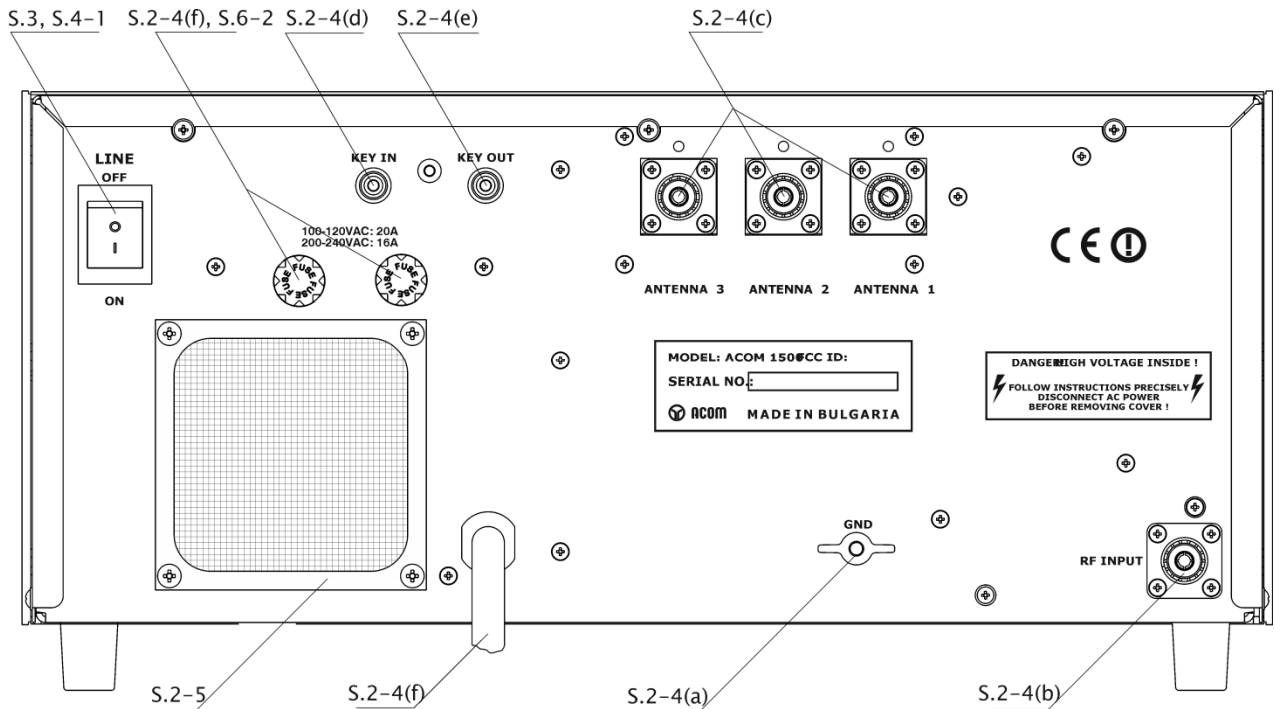
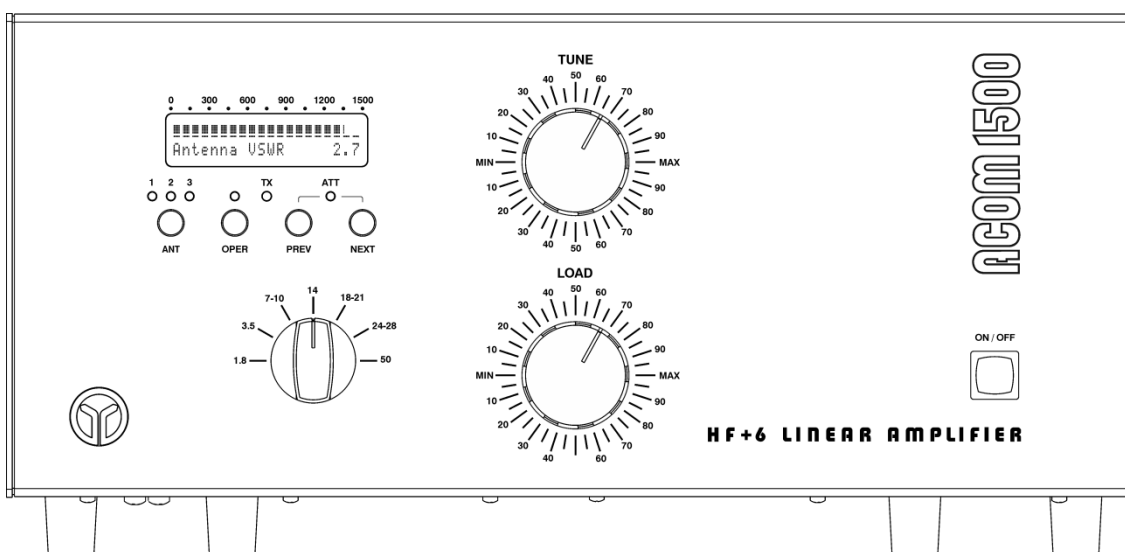

Fig. 2-1 Connections
Fig.3-1 ACOM1500 Display and Control
- First, connect the ground stud of the amplifier (on the rear panel, marked GND) to the station's grounding system (Fig.2-1).
This fan (Fig. 2-1) is not necessary in SSB and CW modes, or in continuous carrier modes (RTTY, SSTV etc.) with a maximum carrier-down time of 15 minutes and a subsequent pause of 3 minutes. For higher duty cycles such as continuous broadcast or increased ambient temperatures the fan is
After following all instructions in S.2, you may turn ON the main power switch marked "LINE" on the rear panel (Fig.2-1). The LED indicator above the red ON/OFF button located on the front panel must light red and an inscription "ACOM1500" will appear on the display (Fig.3-1):